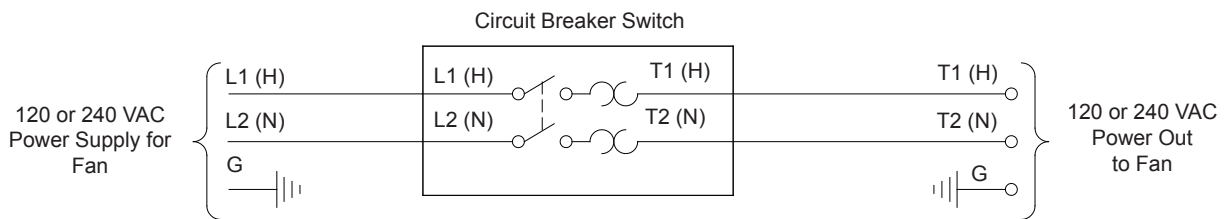

Figure 4A
**Single Phase Fans:** motor overload protection should be provided for each fan. A Circuit Breaker Switch or slow blow motor type fuses must be used, See Figure 4A. See form QM1400 for proper size.